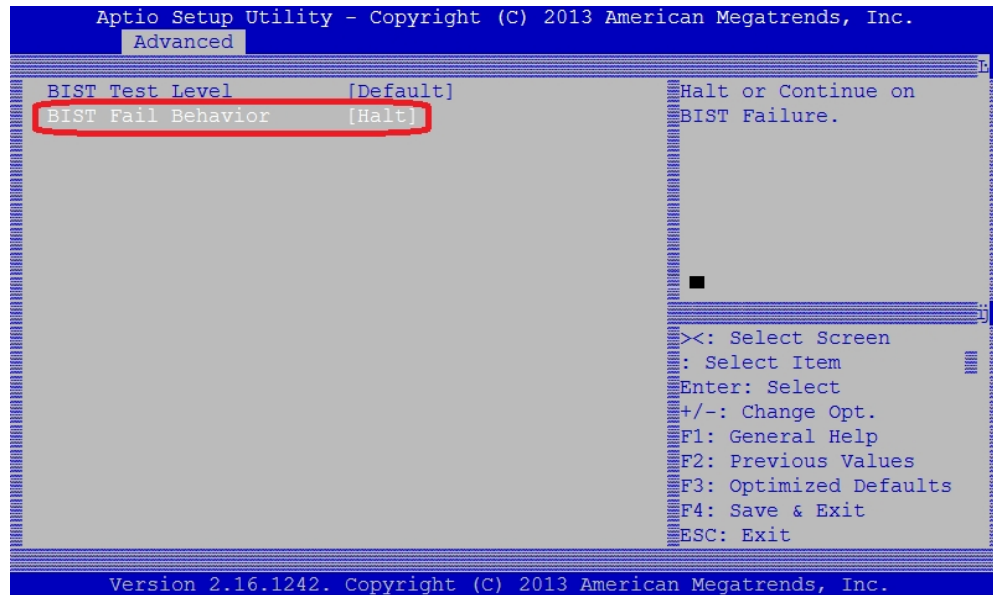

Figure 7-16: BIST Fail Behavior option
2. On the BIST Configuration screen, select *BIST Fail Behavior*(Figure 7-16 on the facing page).